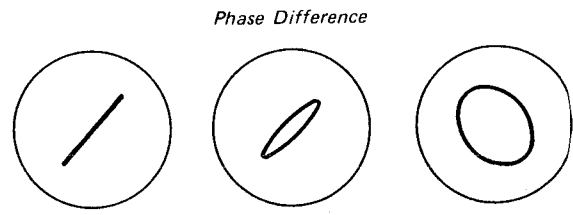

Fig. 12-10 Lissajous figures
- (1) Playback the 2nd tone (400Hz) of SONY alignment tape J-19-F1 or J-19-K1.
- (2) Adjust the p.b. head azimuth adjusting screw to obtain the Lissajous figure with no phase difference as shown in Fig. 12-10 on the oscilloscope.
- (3) Playback the 1st tone (10 kHz) of SONY alignment tape J-19-F1, or J-19-K1.
- (4) Adjust the p.b. head azimuth adjusting screw exactly so that the phase difference between L-CH and R-CH is less than 90°.